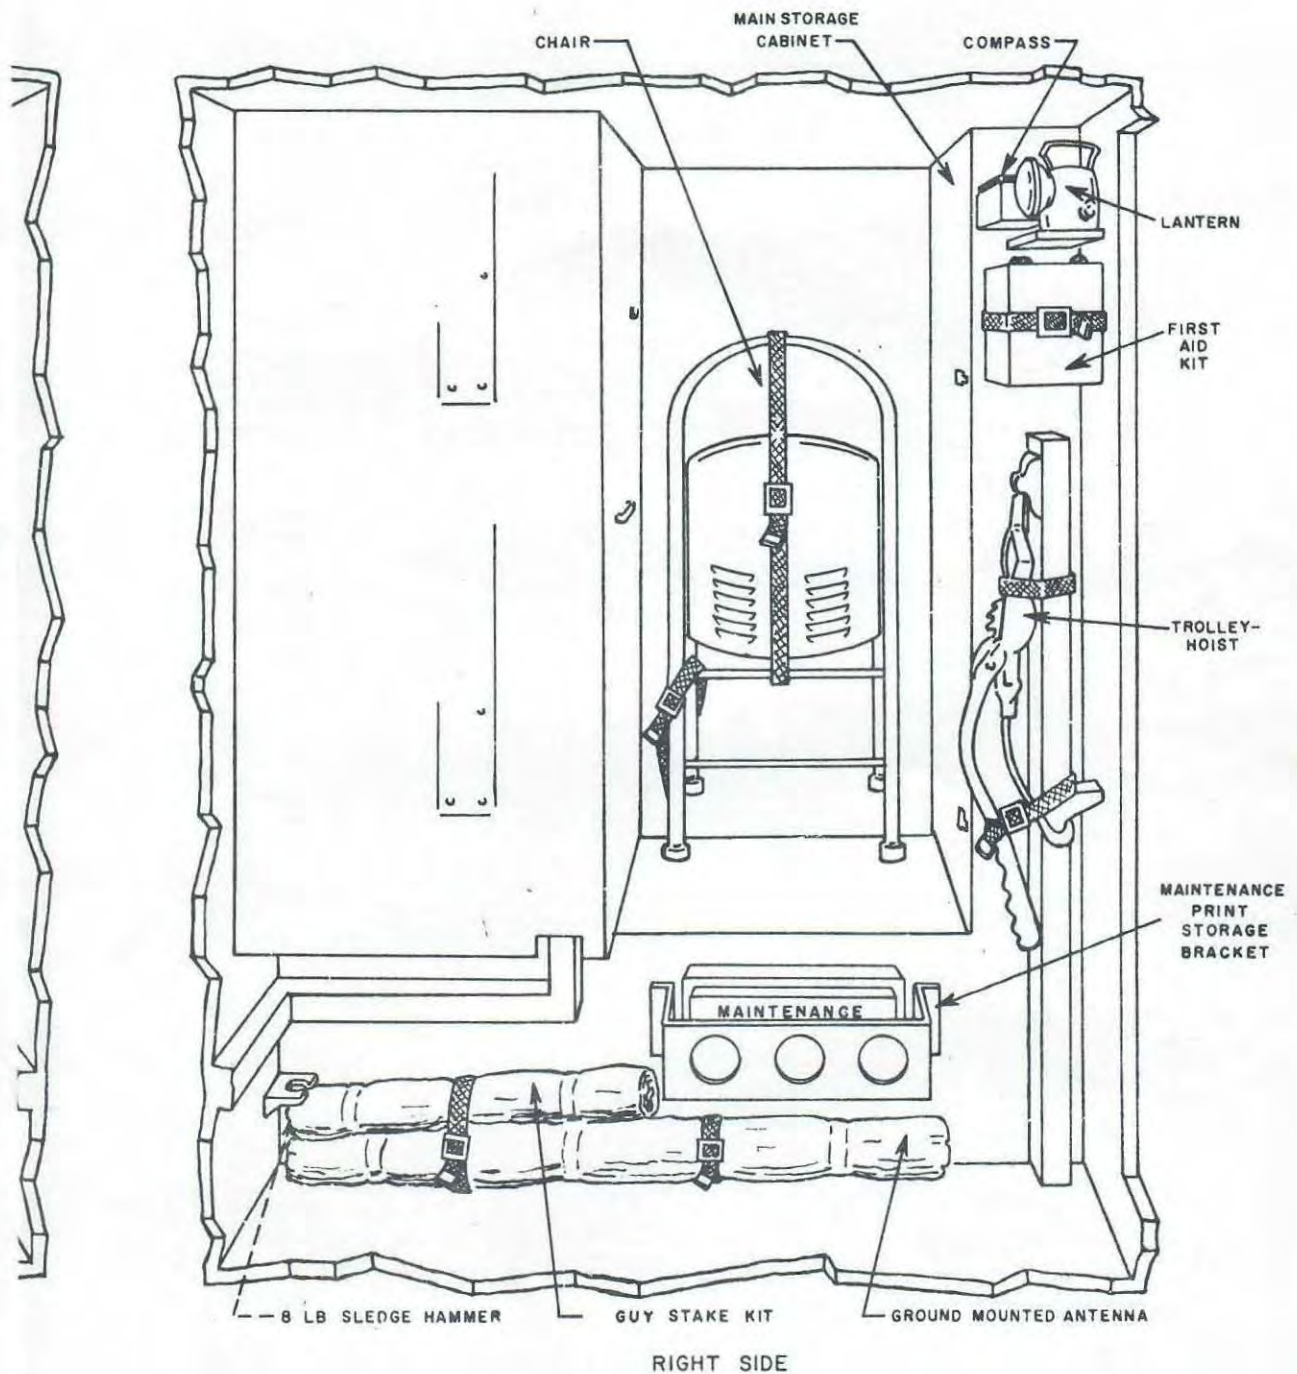
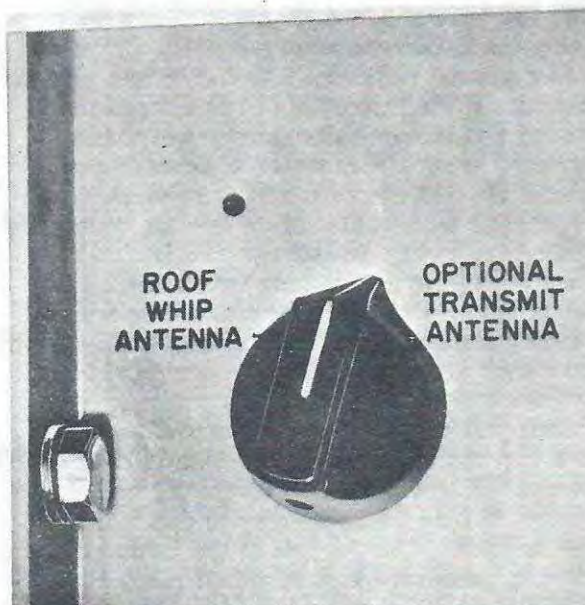
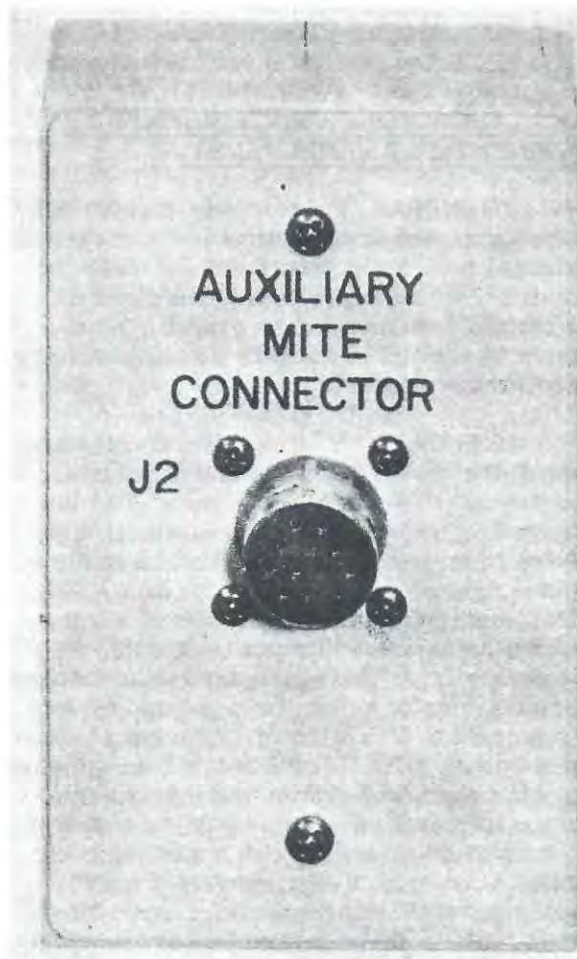

Figure 2-1. Shelter Stowage
Figure 2-3. Antenna Selector Switch
Figure 2-7. Auxiliary Teletypewriter Connector
2-8. SHELTER-MOUNTED ANTENNA AND SHELTER GROUND ROD. The shelter-mounted antenna and associated hardware are stowed in a canvas bag which is strapped to the floor of the shelter along the left wheel well (figure 2-1). Remove the two web straps securing the bag to the floor and remove the bag from the shelter. The shelter-mounted antenna bag contains two 4-foot ground rods, two ground rod clamps, one antenna guy rope ring assembly, three guy ropes, and eight 4-foot sections of antenna. Remove one of the two 4-foot ground rods from this stowage bag. The ground rod should be located not more than seven feet from the ac power entry panel. The ac power entry panel is located on the rear outside wall of the shelter, to the left of the
2-9. INSTALLATION OF SHELTER-MOUNTED ANTENNA. Before the shelter-mounted antenna can be installed on the shelter, the antenna mast base must be installed on the top of the shelter. The antenna mast base is stored on the inside left wall and the ceiling of the shelter. Refer to figure 2-1. Unbolt the antenna mast base from the storage bracket located on the wall and ceiling by removing the three wing nuts which secure it. Remove the antenna mast base cover located outside on the top left forward corner of the shelter. Remove the four nuts which secure the cover to the shelter. After the cover is removed, inspect the silver plated cup-mating surface in the antenna mast base receiving receptacle for dirt or foreign matter. The silver plated cup-mating surface mates with the silver plated cone on the antenna mast base. These mating surfaces provide electrical connection between the shelter equipment and the antenna. Inspect the silver plated cone on the antenna mast base for dirt or foreign matter. With extreme care, place the antenna mast base into the antenna mast base receptacle. Align the four holes in the antenna mast base with the four bolts in the shelter and replace the four nuts. Tighten the four nuts with a 9/16-inch wrench to prevent water leakage into the shelter. The antenna may now be assembled. Remove the eight
2-11. Remove the three nylon guy ropes from the shelter-mounted antenna stowage bag. Snap the snap-ends of the three guy ropes into the holes in the antenna ring. Mount the antenna by threading it into the antenna mast base. Extend the three guy ropes from the antenna to the ground 15 feet from the base of the antenna. Remove three guy rope stakes from the guy stake stowage bag. The stowage bag is stored inside the shelter along the right wheel well on the shelter floor (figure 2-1). Remove the web strap which secures the stake bag to the floor and remove the bag. The guy stake bag contains six stakes. The stakes should be placed 15 feet from the base of the antenna and 120 degrees apart. Drive the three stakes into the ground using the 8-pound sledge hammer, leaving approximately six inches of stake extending above the ground. Snap the slack adjuster end of the guy ropes to the holes in the stakes and remove the slack from the guy ropes by adjusting the guy ropes. After the guy ropes are secured, each guy rope should be adjusted until the antenna is straight and the guy ropes are without slack. The operator should set the antenna selector switch, located inside the left radio equipment cabinet (figure 2-3), to the ROOF WHIP ANTENNA position.
2-18. A 50-ohm rf dummy load, such as Dummy Load DA-173/GRM-10, can be connected to XMIT ANTENNA jack J1 for test and maintenance purposes. Whenever XMIT ANTENNA jack J1 is used, either for an optional transmit antenna connection or for a dummy load connection, position the antenna selector switch shown in figure 2-3 to OPTIONAL TRANSMIT ANTENNA.
2-31. Remove the headset, footswitch, microphone, CW key and cable, and teletypewriter cable from the shelter storage cabinet. Remove the teletypewriter from its storage bracket by removing the two web straps which secure it to the bracket on top of the left wheel well. Remove the teletypewriter table from its stowage position on the left shelter wall. (Refer to figure 2-1.) Place the table on the teletypewriter stowage bracket, making sure that the two pins in the base of the stowage bracket protrude through the holes in the
teletypewriter table. Place teletypewriter on this table. Remove the teletypewriter front cover by releasing the four cover fasteners. Remove the power access plug on the rear of the transit case by turning the knurled plug counterclockwise. Open the ventilation plug by turning its knurled nut counterclockwise. The teletypewriter power cable should now be connected between the teletypewriter and the AUXILIARY MITE CONNECTOR which is located on the left wall of the shelter (refer to figure 2-7). The teletypewriter also may be set up on the folding desk. In this case it should be connected to the Telegraph Line Control C-3533/TSC-15. Plug the microphone and headset into Manual Telephone Switchboard SB-1248/TSC-15. Plug the footswitch into the jack marked FOOT SWITCH on the accessory box (figure 1-1, item 9). Remove the operator's chair from the right wall of the shelter (see figure 2-1) by disconnecting the two web straps which hold it in position. This completes the installation of the operator's equipment.
2-34. SHELTER. Place the RADIO and CONSOLE circuit breakers located on the ac power entry panel in OFF. This removes power to the console and all radio equipment. Disconnect the teletypewriter cable and store the teletypewriter in its storage bracket. Remove the teletypewriter table from its bracket and store the table in its stowage position on the left rear wall (see figure 2-1). Disconnect the microphone, CW key, footswitch, and headset, and store in the shelter storage cabinet. Fold the chair and secure it by the two web straps to the right shelter wall (figure 2-1). Turn off the switches on the shelter blowers and shelter lights. Place the
separating the 4-foot sections and store the sections in the shelter-mounted antenna stowage bag. Remove the four nuts which secure the antenna mast base to the shelter. Lift the antenna mast base straight out of the antenna mast base receptacle. Replace the base receptacle cover, and secure it to the shelter with the four nuts provided. Replace the antenna mast base to its storage position inside left wall and ceiling of the shelter (see figure 2-1). Secure the base with four wing nuts.
2-37. **SHELTER GROUND ROD.** Disconnect the ground cable by removing the clamp from the ground rod and disconnecting the lug from the shelter ac power entry panel. Store the ground rod clamp in the shelter-mounted antenna stowage bag. Store the ground cable in the main storage cabinet. Use the T-handle (stored in the guy stake stowage bag) to remove the ground rod. Place the handle over the rod, tighten the screw, twist on the handle, and pull the rod from the ground. Store the ground rod in the shelter-mounted antenna bag. Stow the 8-pound sledge hammer inside the shelter along the right wheel well (see figure 2-1). Store the guy stake stowage bag along the right wheel well on top of the shelter-mounted antenna stowage bag (see figure 2-1). Secure the two stowage bags to the floor using the web straps provided.